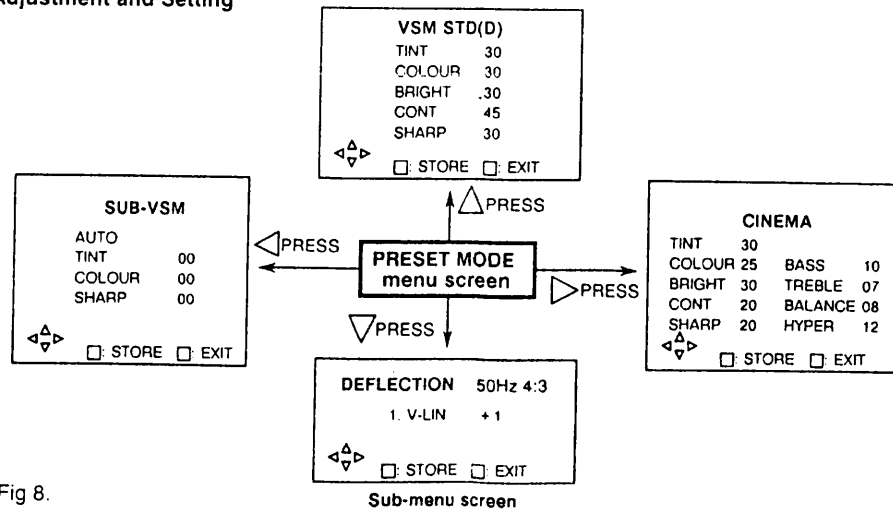

Fig 8.
- 2: The sub-menu for the selected adjustment item (fig. 8.) is displayed.